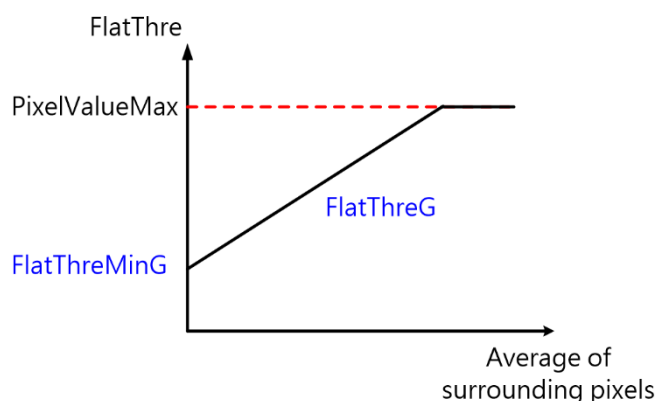

Fig. 5.6: Diagram of adjustment of flat zone threshold value of G-channel
Step 2. The threshold value of flat zone is determined by adjusting the slope **FlatThre[R/G/B]** and the threshold value of flat zone **FlatThreMinG/FlatThreMinRB**. Take the G-channel flat area threshold as an example, as shown in Figure 5-6, the smaller the **FlatThreMinG** threshold is, the better the edge information of the image can be preserved. The larger the threshold value of the flat area, the easier it is to judge as the flat area, resulting in loss of details on the more polygonal edges.